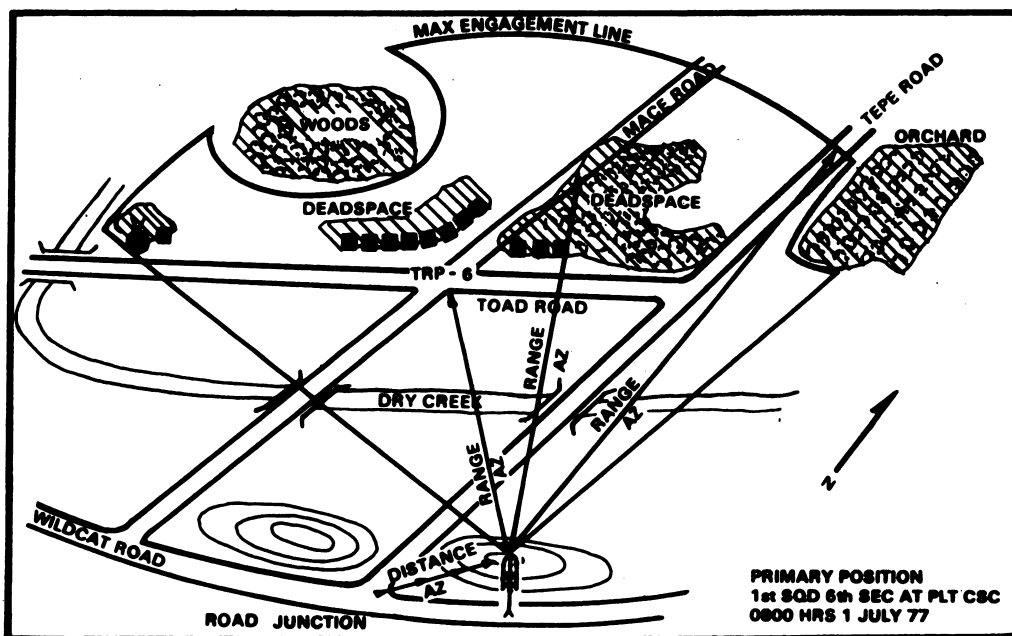

Figure 6
(6) In a corner of your range card, place the following marginal data which is used by leaders to identify range cards (fig. 6).